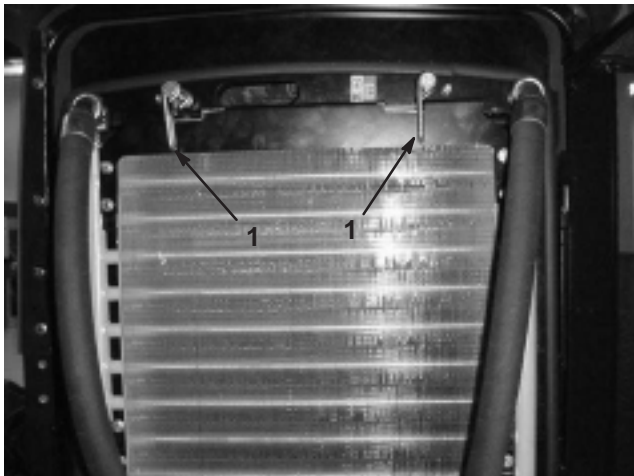

Figure 37
2. Rotate latches (Fig. 37) securing the oil cooler to the frame.